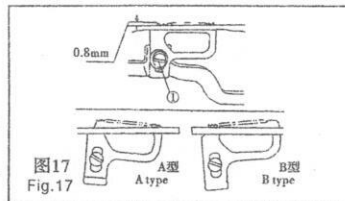

图17
十四. 送料牙的调节 (图17, 18) Adjustment of the height of the feed dog (Fig.17,18)
旋松 (图18) 所示螺钉②, 送料牙的倾角即可调节成标准型、A型、B型, 送料牙最大突出量是0.8mm, 用 (图17) 中螺钉①调节。
Loosen the set screw ②, as shown in Fig.18, the angle of the feed dog can be adjusted to the specified one of standard version, A version, and B version. The Max. Height of 0.8mm of the projection from dog is adjustable by the adjusting of screw ① as shown in Fig.17.